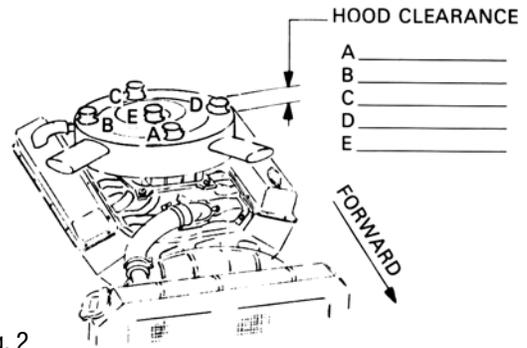

Fig. 2
- FIRING ORDER AND CYLINDER NUMBERING—For firing order and cylinder numbering, see Figure 2.
4. See Figure 2 and record measurements in blank spaces labeled A-B-C-D-E.